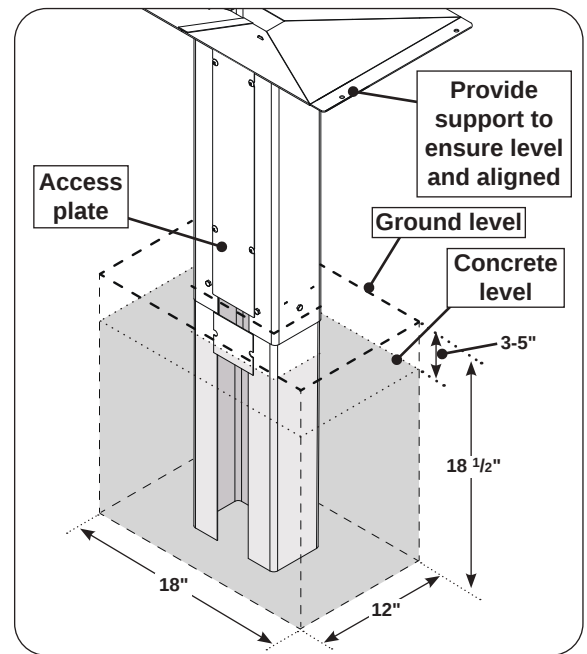
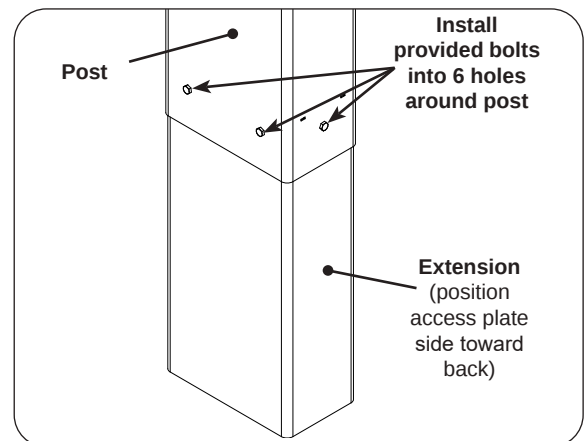
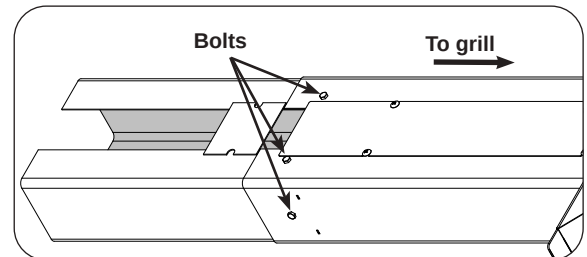

Fig. 27-1 Installation overview
Fig. 27-2 Install extension to post
Fig. 27-3 Fasten extension to post
1. Attach the extension to the bottom of the grill post so that the open portion is facing the same direction as the access plate and the six holes in the extension line up with the six (6) weld-nuts in the post (see Fig. 27-1 and Fig. 27-2).
2. From outside the joined post and extension, insert one of the $\frac{1}{4}$ " - 20 X $\frac{1}{2}$ " bolts (supplied) into each of the six (6) bolt holes and tighten each bolt using a $\frac{7}{16}$ " socket driver or wrench (see Fig. 27-2 and Fig. 27-3).
1. Dig a hole for the post and extension approximately 18" wide, 12" front-to-back, and 18 $\frac{1}{2}$ " deep. See Fig. 27-1.
3. Carefully orient the post into the installation hole and verify proper positioning. See Fig. 27-1.